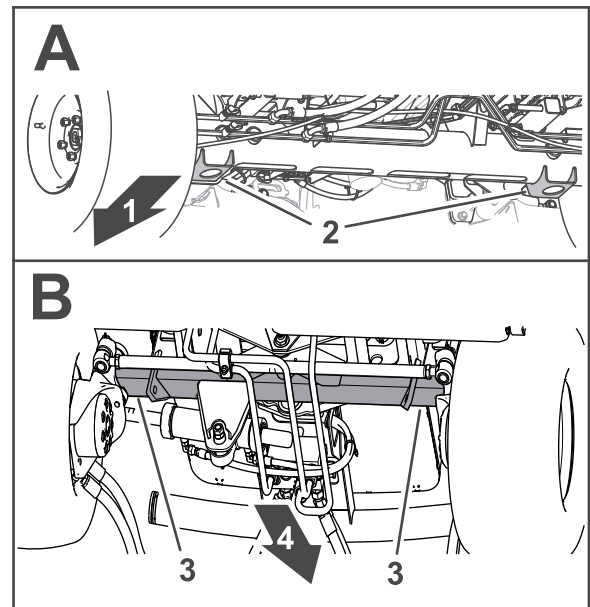

Figure 40
- Front—the jack brackets of the front-axle tube (Figure 40).